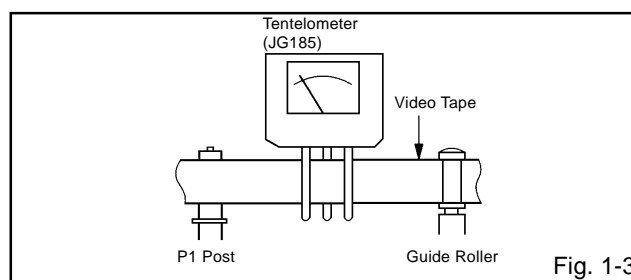

Fig. 1-3
- Install the tentelometer (JG185) as shown in **Fig. 1-3**. Confirm that the meter indicates 20 ± 2 gf in the beginning of playback.
- After confirmation and adjustment of Tension Post position (**Refer to item 1-2**), load the cassette type torque tape (**JG100A**) and set to the PLAY mode.